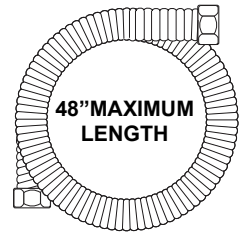

Fig. 15
- A new flexible metal appliance conduit (1/2" NPT x 3/4" or 1/2" I.D.) must be design certified by CSA International (Fig. 15). Because solid pipe restricts moving the range we recommend using a new flexible conduit (48" MAXIMUM LENGTH) for each new installation and additional reinstallations.